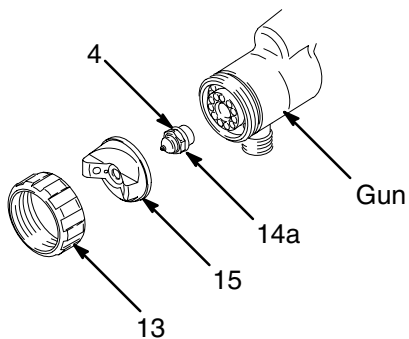

Fig. 17
2. Remove air cap retaining ring (13), air cap (15), nozzle (14a) and o-ring (4). See Fig. 17.
3. Trigger gun while using your hand to remove the fluid nozzle (14a). See Fig. 17.